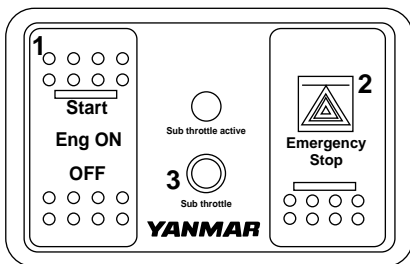

Figure 8
1st Station Panel (Figure 8)
2. Emergency Stop (Figure 8, (2))
NOTICE: Use this switch only in an emergency. Under normal circumstances, use the Eng ON switch (Figure 8, (1)) to stop the engine. The engine shuts down suddenly when the upper half of the Emergency Stop switch is pushed. Push the bottom half of the switch after the engine has shut down to return the switch to the center.
3. Sub throttle Control (Figure 8, (3))